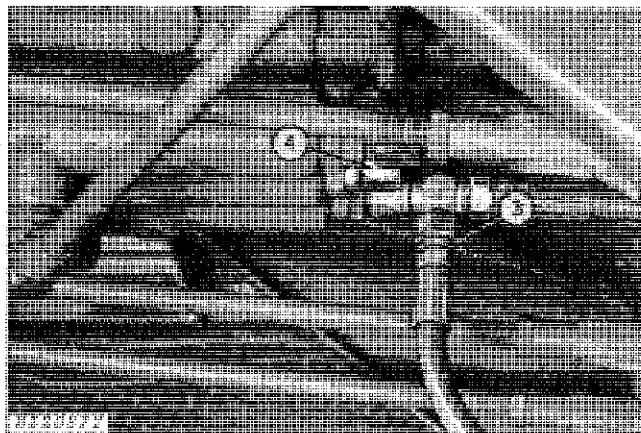

Fig. 19-Changing Valve Connections
3. Install hose on right-hand outlet (Fig. 19).